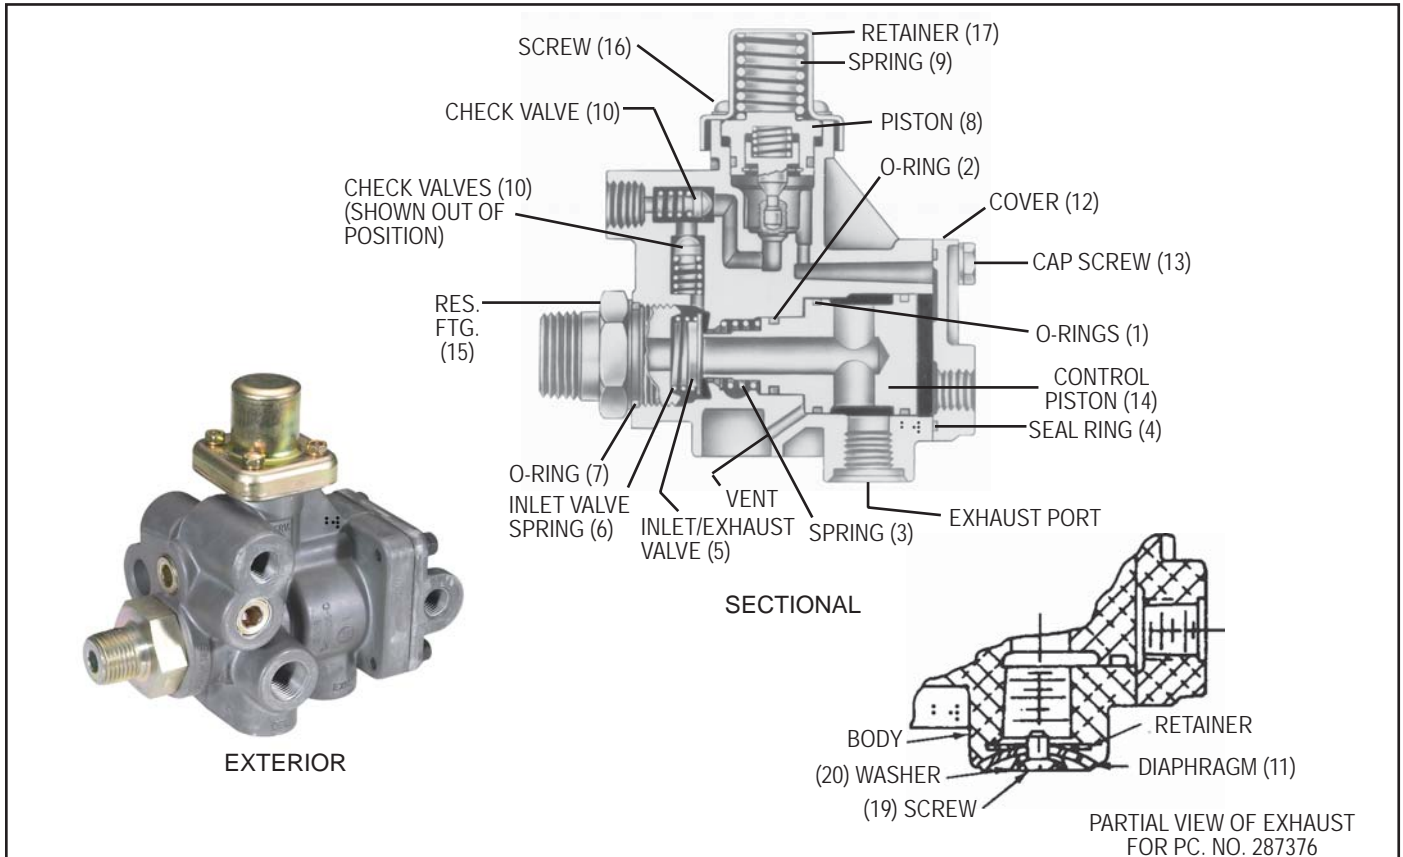

FIGURE 1
REMOVAL AND DISASSEMBLY OF THE PRESSURE PROTECTIVE PISTON (Reference Fig. 1)
PISTON (Reference Fig. 1)
- Note and mark the position of the control piston cover (12) on the valve body. Remove the four 1/4" - 20 hex head cap screws (13) and lock washers which retain the cover to the body.
- Remove the cover, control piston assembly (14), and spring (3) from the valve body.
- From the control piston remove the three o-rings. (1) and (2).
- Remove the reservoir port fitting (15) from the valve body.
- From the reservoir port fitting remove the o-ring (7).
- Remove the inlet valve spring (6) and inlet and exhaust valve (5).
- If so equipped, (Figure 1) remove the screw (19), washer (20) and diaphragm (11) from the exhaust port.
REASSEMBLY OF TWO SINGLE CHECK VALVES (10) (Figure 1 and 7)